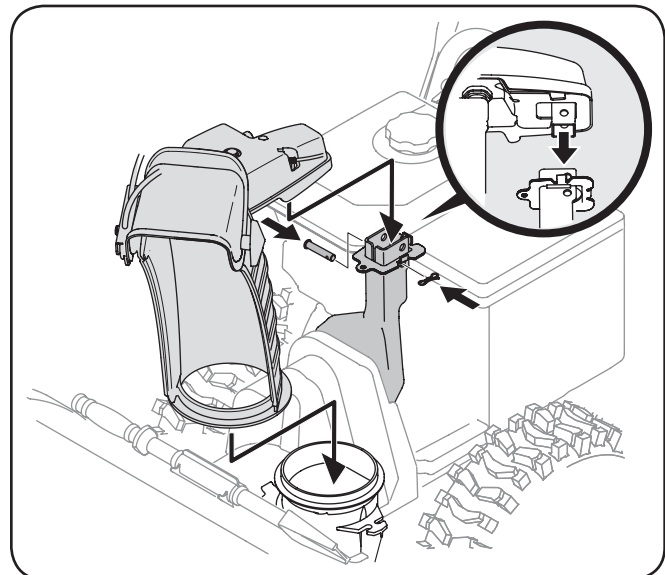

Figure 3-3
2. Place chute onto chute base and secure chute control head to chute support bracket with clevis pin and bow-tie cotter pin removed earlier. See Fig. 3-3.